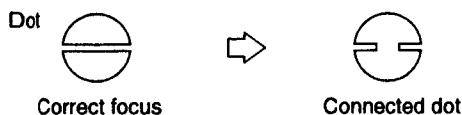

Fig. 3-30
5. Turn the H focus VR clockwise (returning direction) so that the dot will be as shown in Fig.3-30. At that time, both ends of the central section of the screen are in the same state.